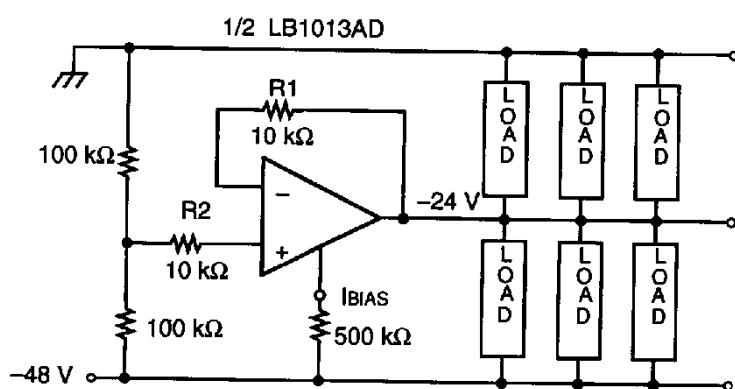

Figure 9. Typical Voltage Follower
2. It is a good practice to place a resistor (R1, Figure 9) between the resistor of equal value (R2, Figure 9) and any external connections. The value of these resistors should be between 1 k Ω and 10 k Ω .